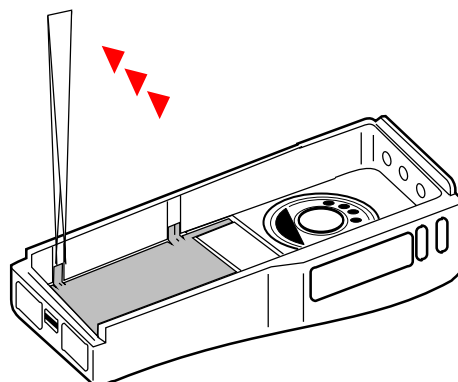

Figure 1-8. Remove Front Housing Shield
2. Remove the front housing shield using tweezers or sharp end screwdriver by undoing the four side catches (Figure 1-8).